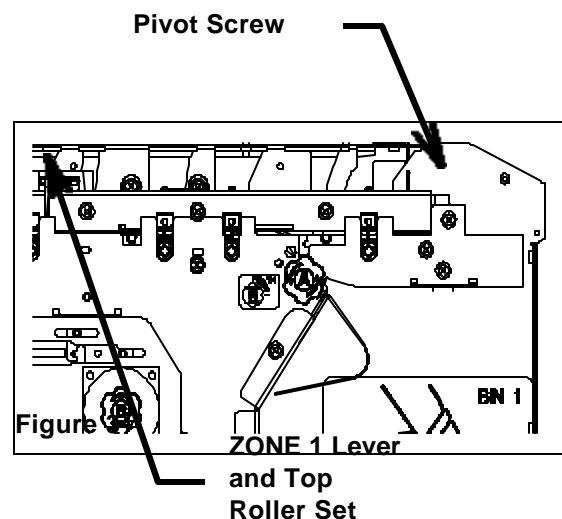

Figure 3
6. Slide the ZONE 1 Lever and open the Top Roller Set (Figure 3).